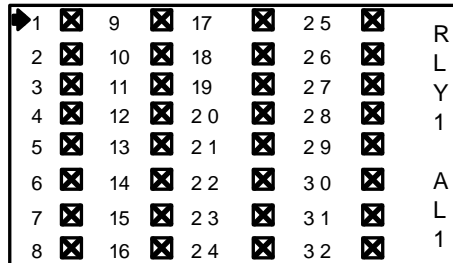

Figure 10-6 Select Channels Screen
- **Select Channels** brings up a check box (Figure 10-6) screen for assigning which of the Active Channels are assigned to this relay. This allows creating Zones among the active channels.